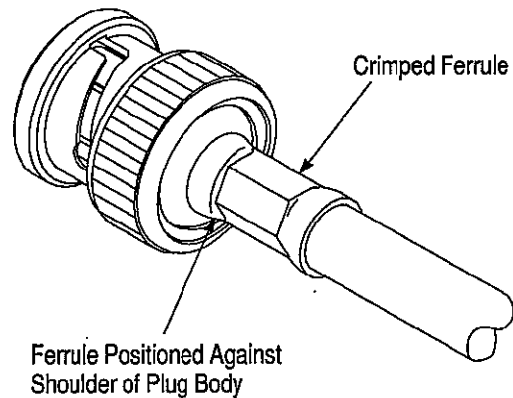

Figure 6
6. Slide ferrule forward over cable braid and support sleeve until it is positioned against the shoulder of the plug body. Crimp the ferrule using the recommended crimping tool, as shown in Figure 6.